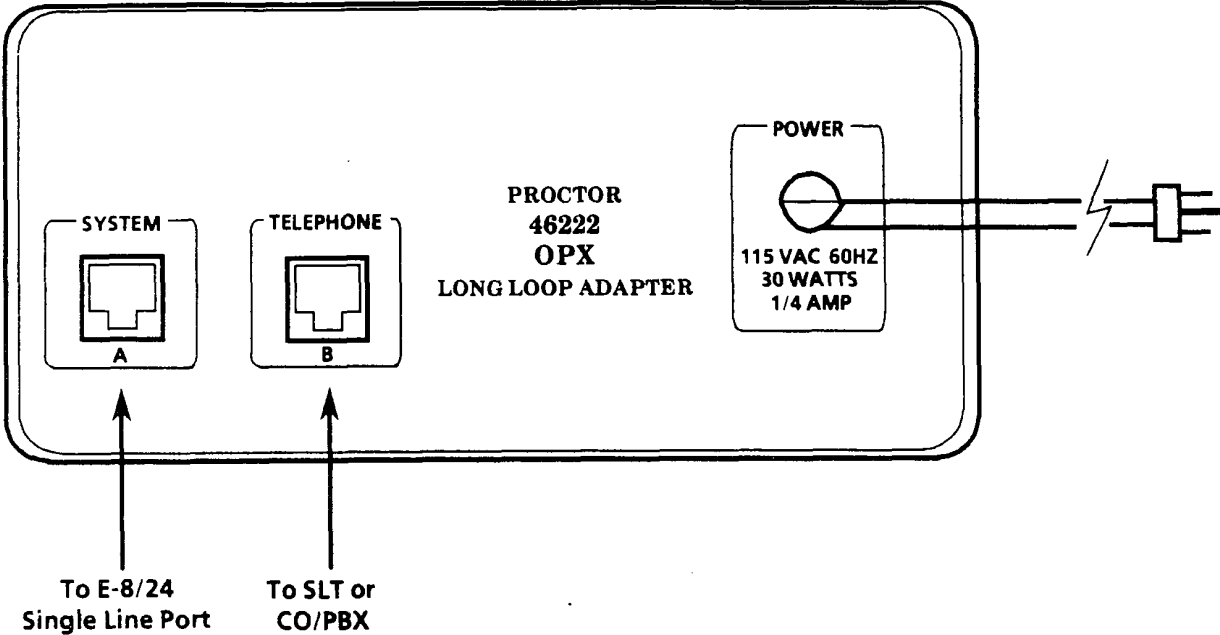

Figure 1 PROCTOR 46222 OPX Long Loop Adapter Installation
- 6.1 Make the following connections. (Refer to Figure 1 Proctor 46222 OPX Long Loop Adapter Installation.)